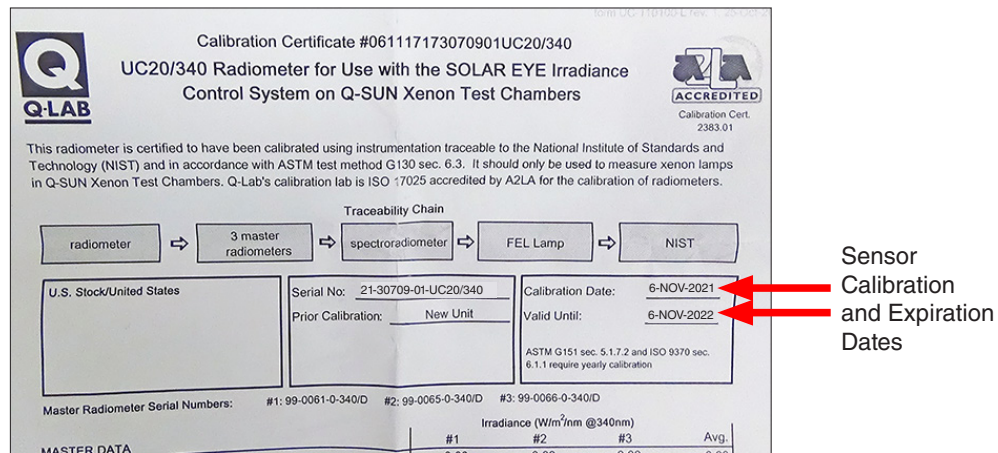

Figure 11.1.1d: UC20/340 Calibration Certificate
- Calibration information is on the sensor calibration certificate and on a Smart Sensor case label (Figure 11.1.1d, d).